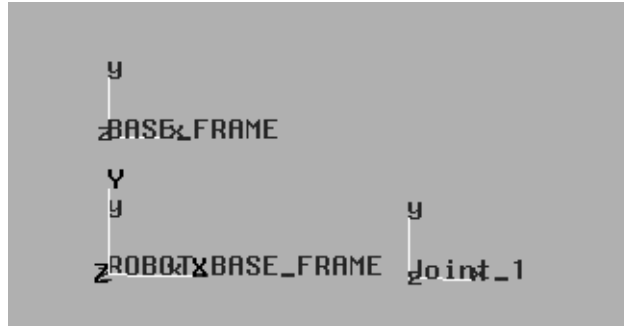

Figure 4: Joint_1 moved 1200mm
- Use *Translate* and move Joint_1 1200mm in x-direction (see Figure 4)